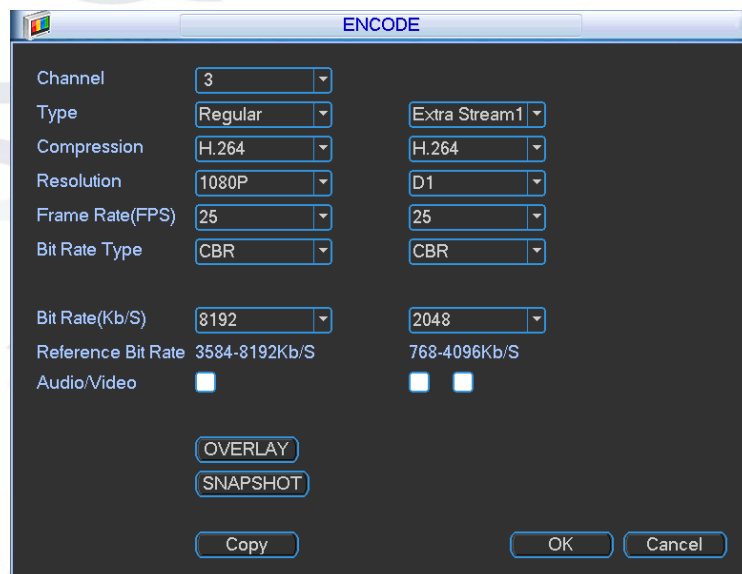
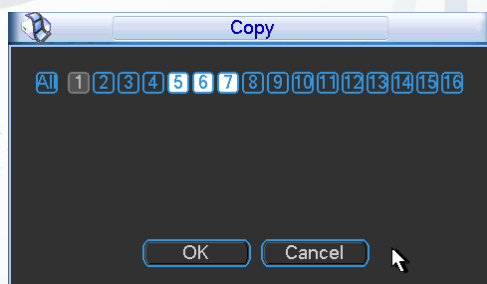

Figure 5-24
Figure 5-26
Encode setting includes the following items (See Figure 5-24).
- **Copy:** After you complete the setup, you can click the Copy button to copy current setup to other channel(s). You can see an interface box shown in Figure 5-26. If you look at the channel number in the small boxes you can see the current channel number is grey. Please check the number to select the channel or you can check the box ALL. Please click the OK button in Figure 5-26 and Figure 5-24 respectively to complete the setup.